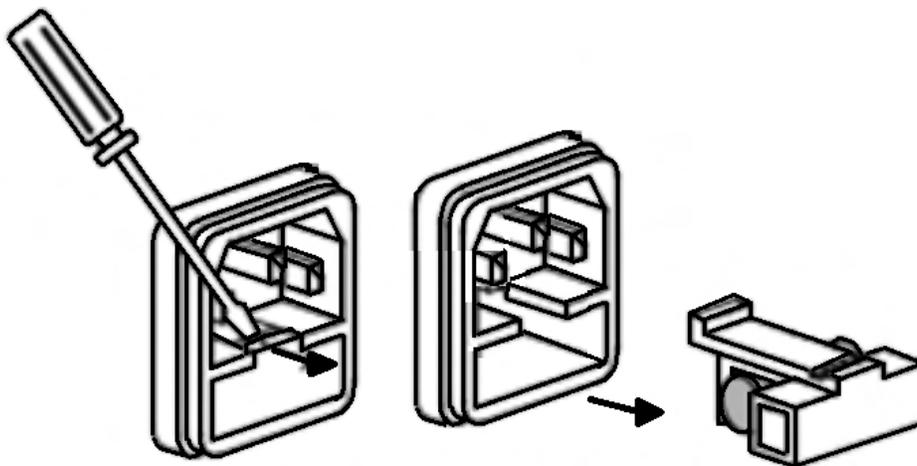

Figure 4.3 Fuse Removal
- Step 2.** Insert a small flathead screwdriver into the fuse box slit to slide out the fuse box as illustrated in figure 4.3.